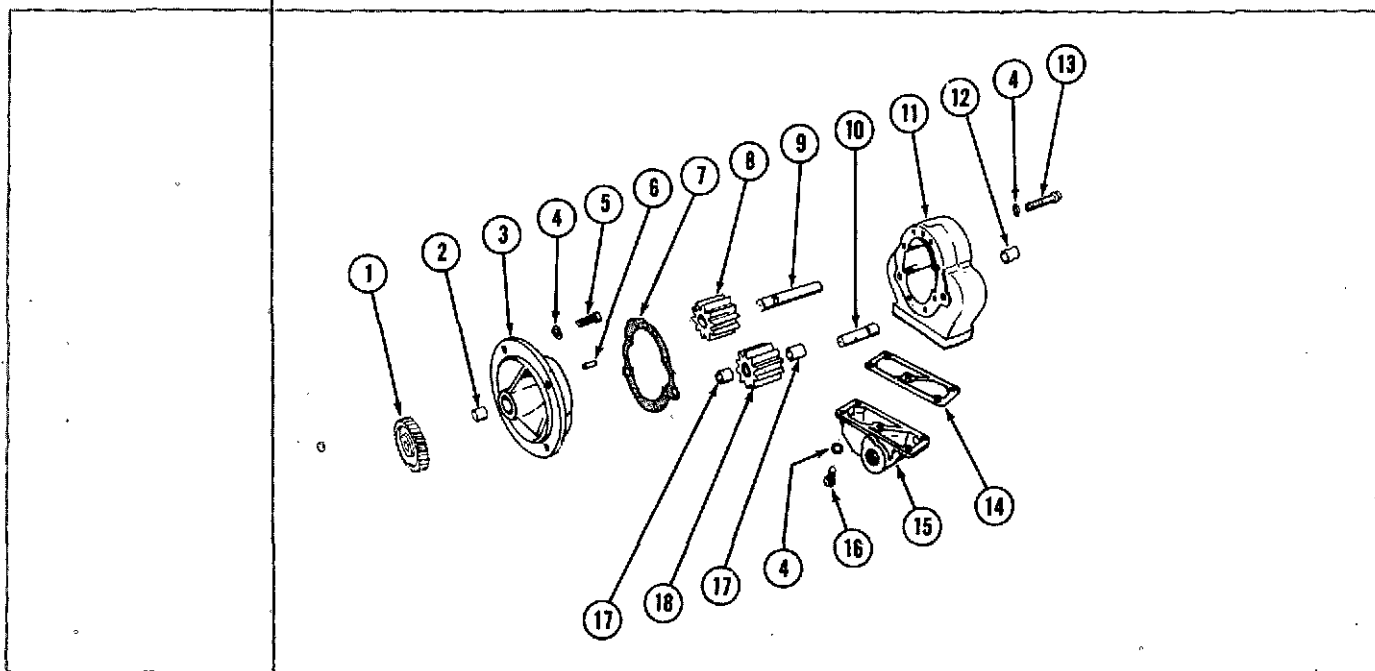

Fig. 7-6-3, V40734. Scavenger oil pump-exploded view
1. Remove capscrews (13, Fig. 7-6-3) and lockwashers (4) securing bracket to body. Tap bracket from body and discard gasket.
2. Slide driven gear (18) from shaft.
3. Support bracket and press drive shaft from external drive gear (1).
4. Remove shaft and internal drive gear (8) from bracket; press shaft from gear.
1. Press internal drive gear (8, Fig. 7-6-3) on shaft (9) from internal drilled oil line end, so shaft protrudes 0.970 to 0.980 inch [24.6380 to 24.8920 mm].
2. Press driven gear shaft (10) into body (11) so shaft protrudes 2 13/16 inch [71.4375 mm] above bottom finished surface of body.
3. Slide drive shaft assembly into bracket (3).